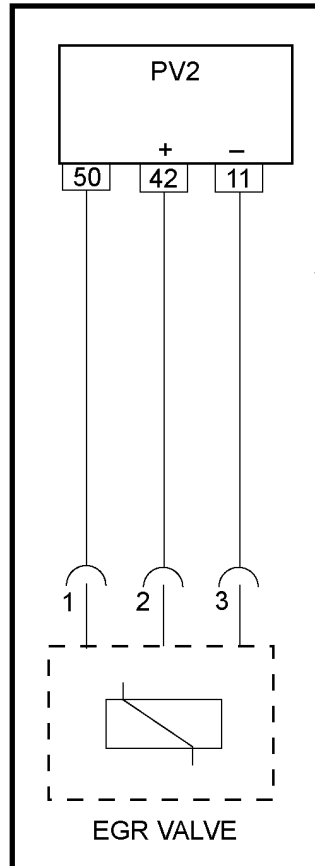

Figure 5 – EGR Valve – Wiring Diagram
1. Check EGR valve wiring between the valve and the DDEC-ECU. Look for: Bad wire connection, corrosion on terminals, short circuit, lost continuity between the DDEC-ECU and the EGR valve. For wiring diagram, see figure 5.